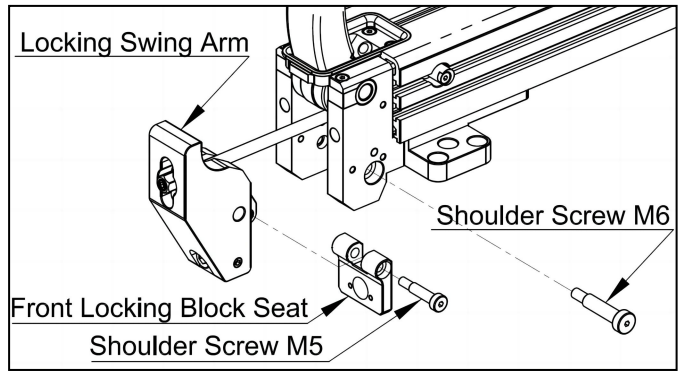

Fig. 9-5
- (5) Slide out the Locking Swing Arm by removing two shoulder screws and the Front Locking Block Seat, as depicted in **Fig. 9-5**.